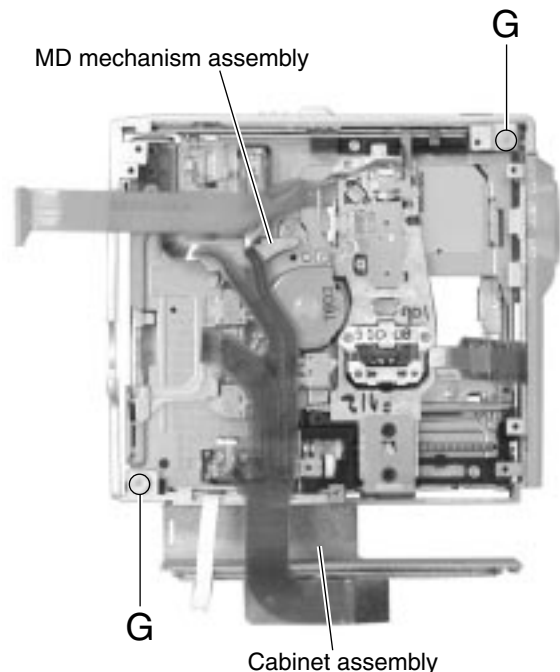

Fig.11
■ Removing the MD mechanism assembly (See Fig.11)